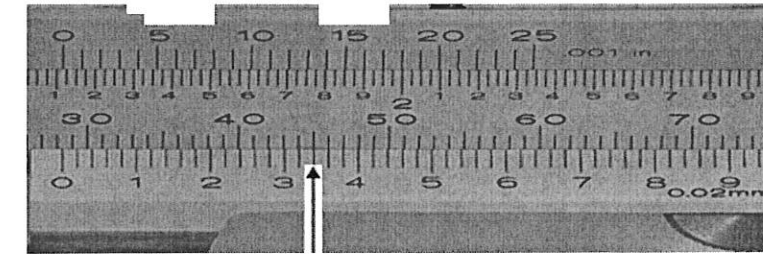

Figure 2
8. What is the actual reading for the vernier caliper shown in figure 2 below. [CLO1]